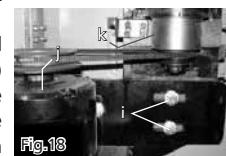

Fig.18
1. Loosen the two hex head bolts (Fig.18-I).
2. Slide the motor and bracket assembly (J) away from the spindle cartridge (K) until the slack is removed from the belt.